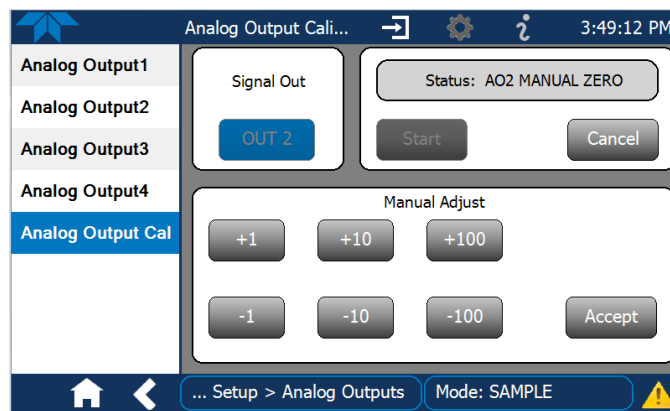
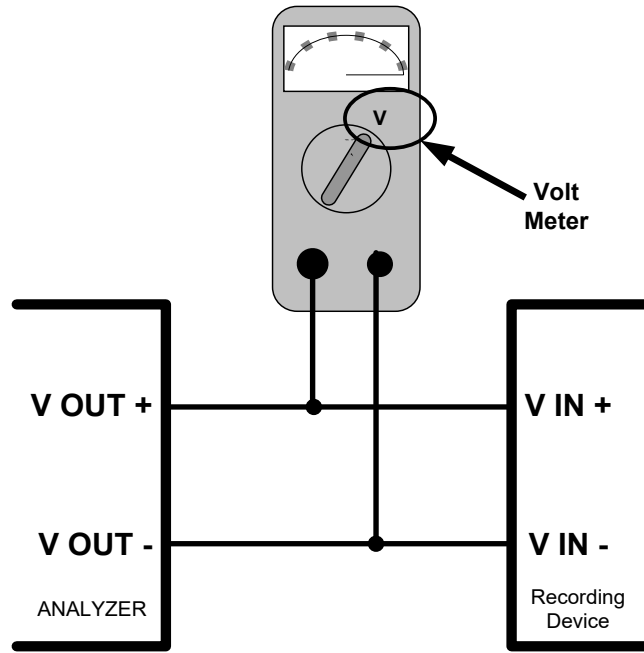

Figure 2-41. Analog Outputs Manual Calibration Screen (AOUT2 Example)
Figure 2-42. Setup for Checking / Calibrating DCV Analog Output Signal Levels
- MANUAL for individual calibration (Figure 2-41) of analog outputs where manual adjustments can be made (the only calibration type allowed when Current is selected for the Range). See Sections 2.5.7.1 and 2.5.7.2 .
It is possible to manually calibrate the voltages by using a voltmeter connected across the output terminals (Figure 2-42) and changing the output signal level in the Manual Adjust field of the Analog Outputs Calibration screen (Figure 2-41). Refer to Table 2-10 for voltage tolerances.